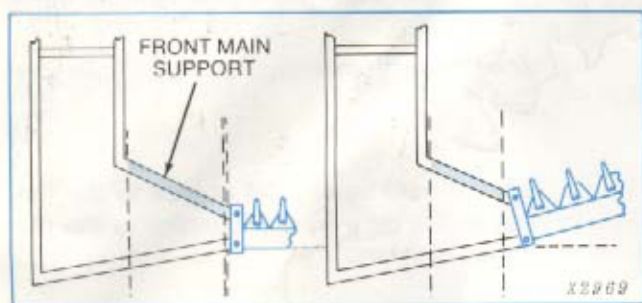

Fig. 27 — Shortening Front Support
1. Shorten the front main cutter bar support (Fig. 27).